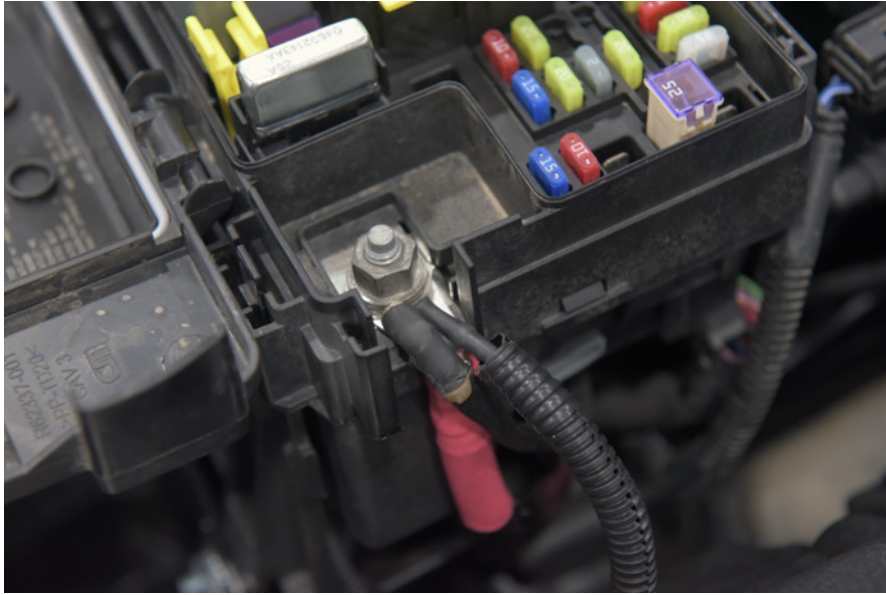

Figure 20
25. Route the wire with the ring terminal under the TIPM and attach the ring terminal to the TIPM post (Fig. 20).